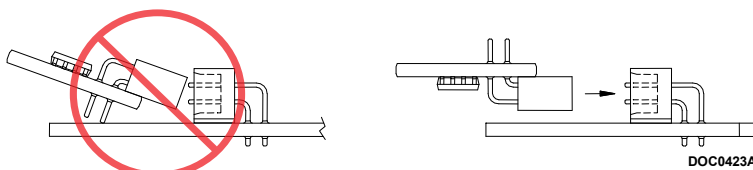

Figure 2. License Key Installation
6. Press the license key into the terminal unit it is firmly seated (refer to Figure 2).